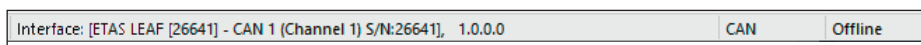

Fig. 5-15: Status bar: CAN interface connected
- ☞ If an interface is displayed in the status bar (Fig. 5-15), continue with chapter 5.3.3.4 "Creating a new configuration file".